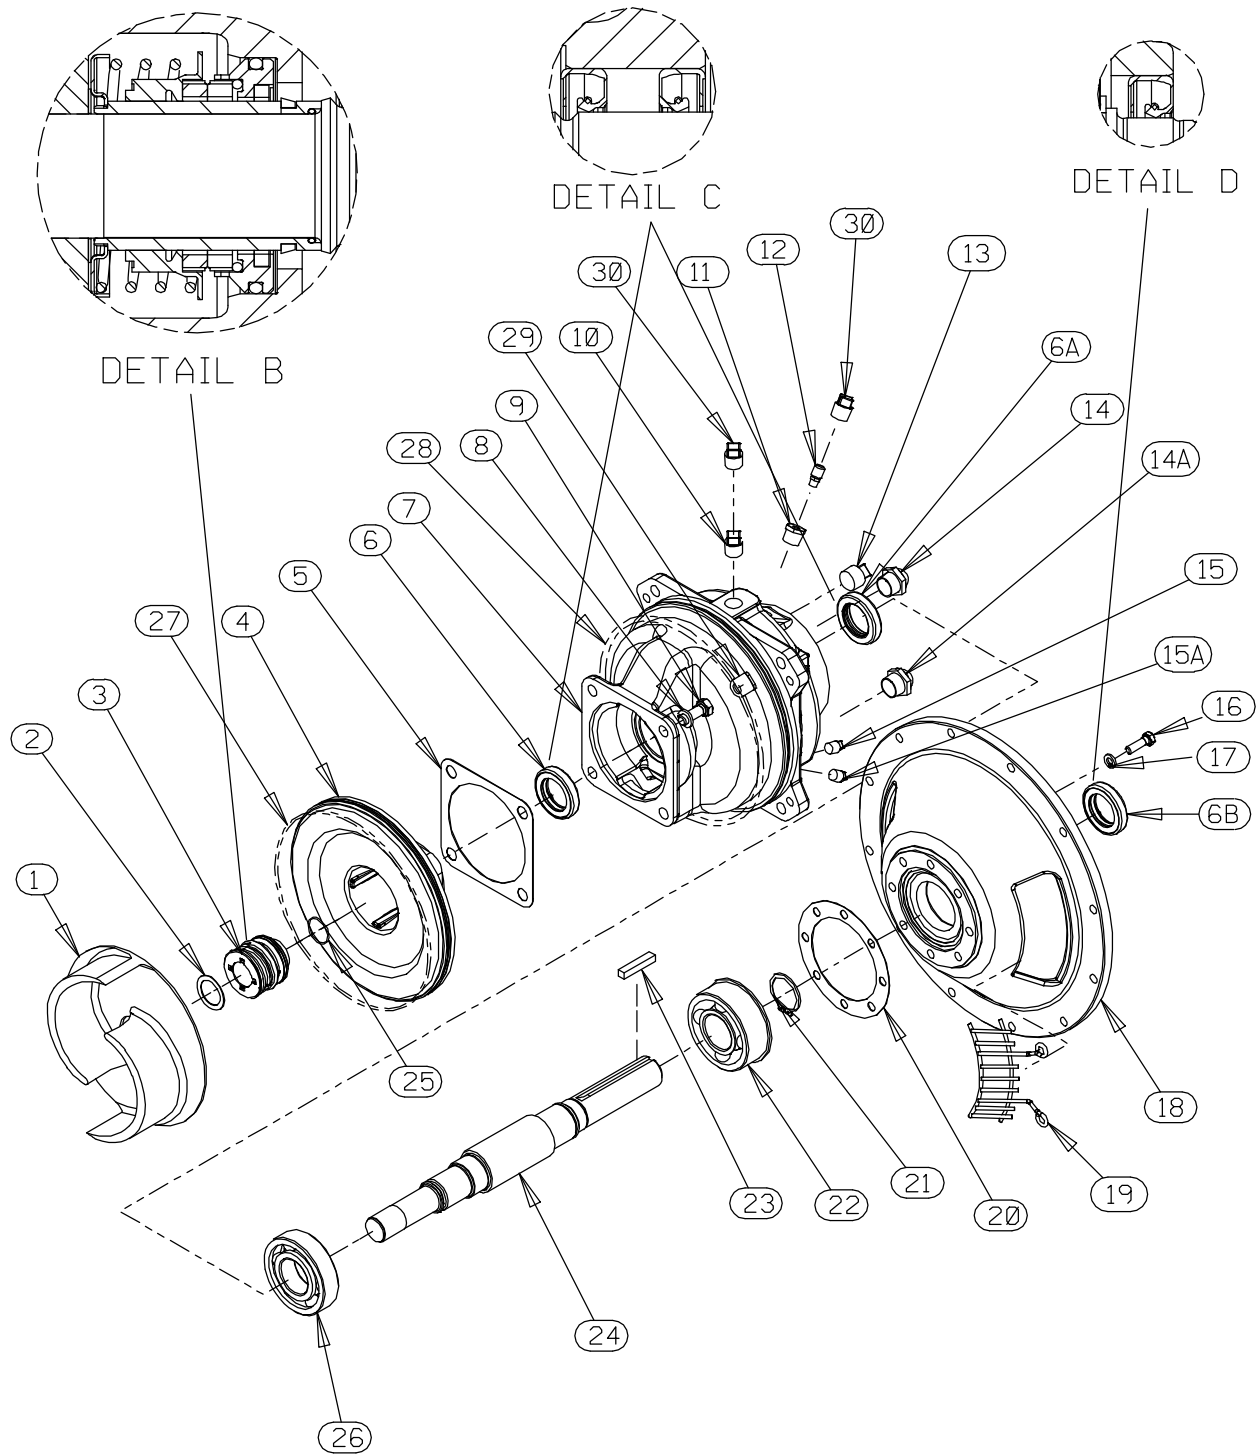

Figure 5. 44163-492 Repair Rotating Assembly
Disengage the hardware (2 and 3, Figure 2) securing the drive flange to the engine bellhousing, and remove the guards (19, Figure 5). Separate the pump end and drive assembly from the engine by pulling the pump end straight away from the engine.
two allen head setscrews from the bushing (1). Screw one of the setscrews into the puller hole on the circumference of the bushing. As the coupling and bushing separate, remove the bushing, and slide the coupling off the shaft. Remove the shaft key (23, Figure 5).
#### (Figure 5)